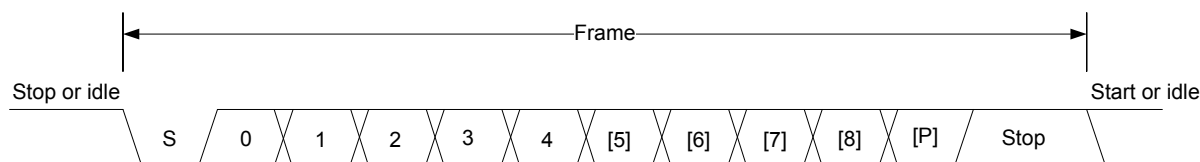

Figure 19.2. USART Asynchronous Frame Format
The frame format used in asynchronous mode consists of a set of data bits in addition to bits for synchronization and optionally a parity bit for error checking. A frame starts with one start-bit (S), where the line is driven low for one bit-period. This signals the start of a frame, and is used for synchronization. Following the start bit are 4 to 16 data bits and an optional parity bit. Finally, a number of stop-bits, where the line is driven high, end the frame. An example frame is shown in Figure 19.2 USART Asynchronous Frame Format on page 567.